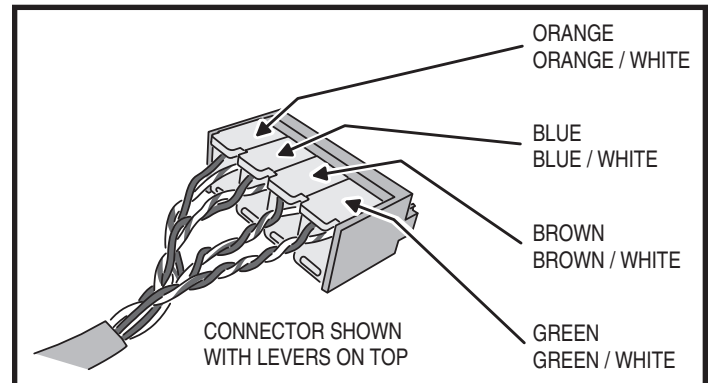

Figure 12. Completed Press-on Connector Assembly
6. Repeat Steps 4 & 5 for the other three wire pairs on the cable. Check each wire's connection by gently pulling on the wire. With a good connection, the wire will not pull out of the connector (see Figure 12).